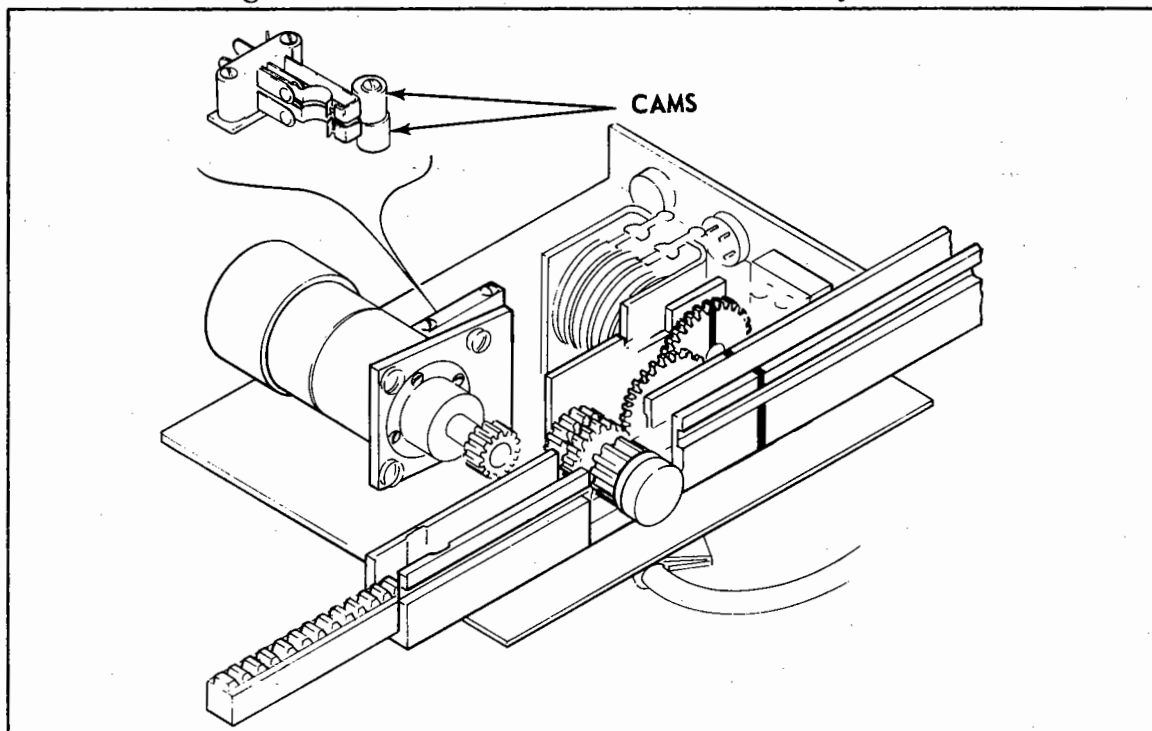

Figure 4-2. Switch Adjustment Cams
4-5. ADJUSTMENT OF SERVO SELECTOR SWITCH AND PITCH AUTOPILOT SERVO MOTOR SWITCH. (Refer to Figure 4-2.) This adjustment procedure is for AltiMatic II Installations containing the Rack and Pinion type servo. The cams used for adjustment of the switches are double stacked on the same retaining screw. The top cam adjustment is for the servo selector switch and the bottom cam adjustment is for the pitch servo motor switch. The following detailed adjusting procedures will explain the adjusting details for both switches. The switches are actuated by the AltiMatic II pitch engage knob. The cams must be adjusted so the top switch (servo selector switch) actuates when the AltiMatic II pitch engage knob is rotated through the 11:00 o'clock position and the bottom switch (AutoPilot servo motor switch) actuates when the AltiMatic II pitch engage knob is rotated through the 1:00 o'clock position. In addition, the bottom switch must actuate before the AutoPilot servo motor gears begin to mesh and both switches must deactuate before the AltiMatic II pitch engage knob is rotated to its OFF position.
a. SWITCH ADJUSTMENT PROCEDURE. (Refer to Figure 4-2.)